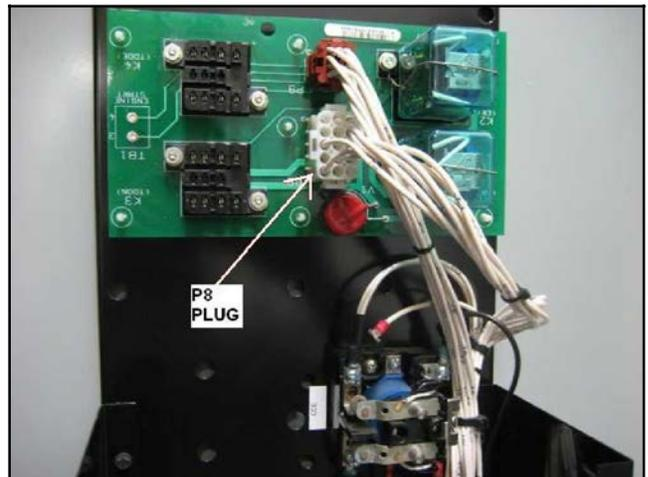
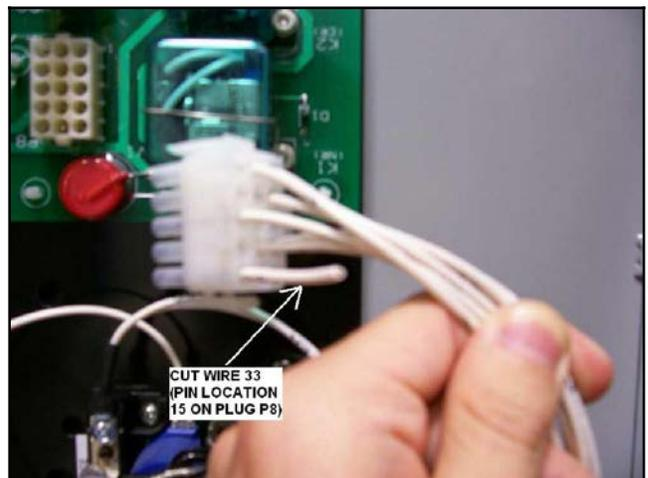

**Figure 44** Cut Connector from Pair of Leads Labelled 20
**Figure 45** Single Jumper Lead 20 (separate and discard)
29. Cut the terminal off the pair of leads marked 20 and separate the leads. See Figure 44. Discard the short jumper lead (20) that was connected from CCE-1 to CCN-1. See Figure 45.